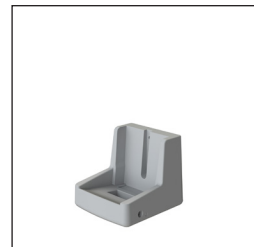

Figure 16 Chargerstation.
- Charge the battery on the chargerstation (See figure 16).